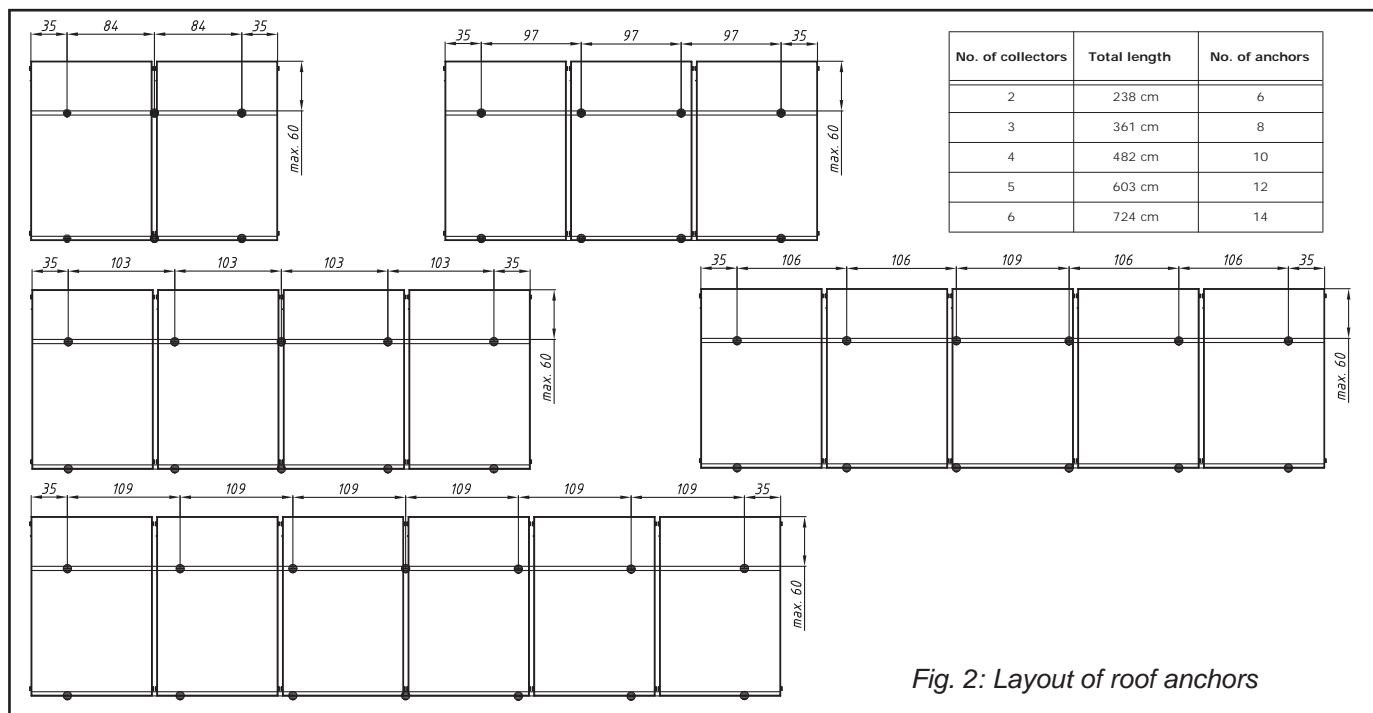
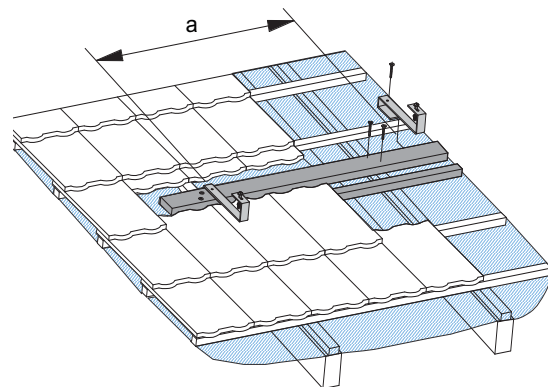

Fig. 2: Layout of roof anchors
Fig. 5: Fixing an auxiliary board and roof anchors
tion of anchors resembles the positions in Fig. 2. At the same time screw the boards so high that the roof anchor does not hinder placing the roof tile with the right overlap (see Fig. 8).
- Hang the roof anchors onto the auxiliary board respecting their distribution shown in Fig. 2.
- Remove roofing in places where anchors shall be fixed (Fig. 5). The distance "a" between anchors is defined in Fig. 2.
- Depending on the number of collectors, measure and calculate the positions for fixing roof anchors (Fig. 2). Such places shall be selected for mounting where anchors can be fixed sufficiently into the roof frame (rafter or similar).